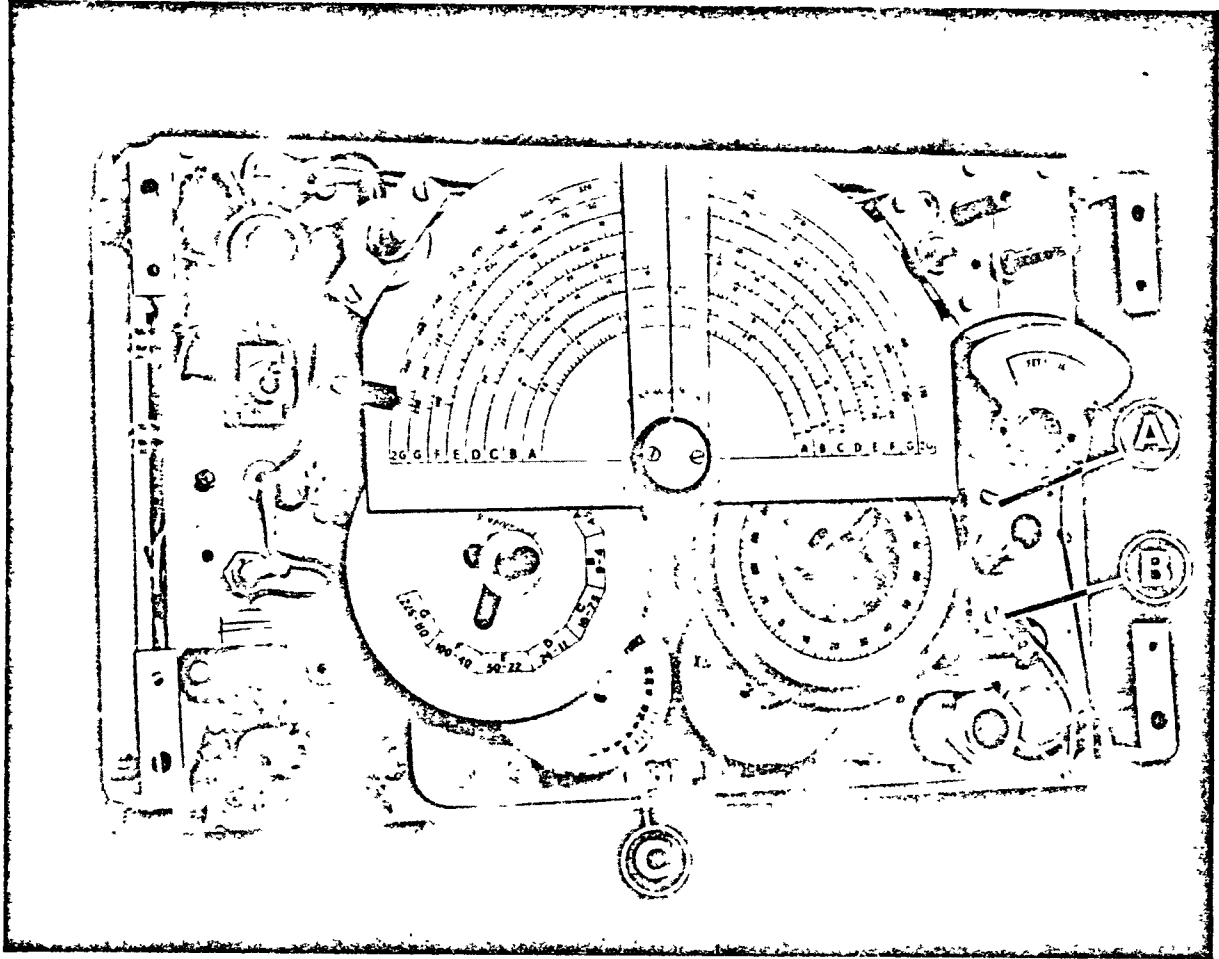
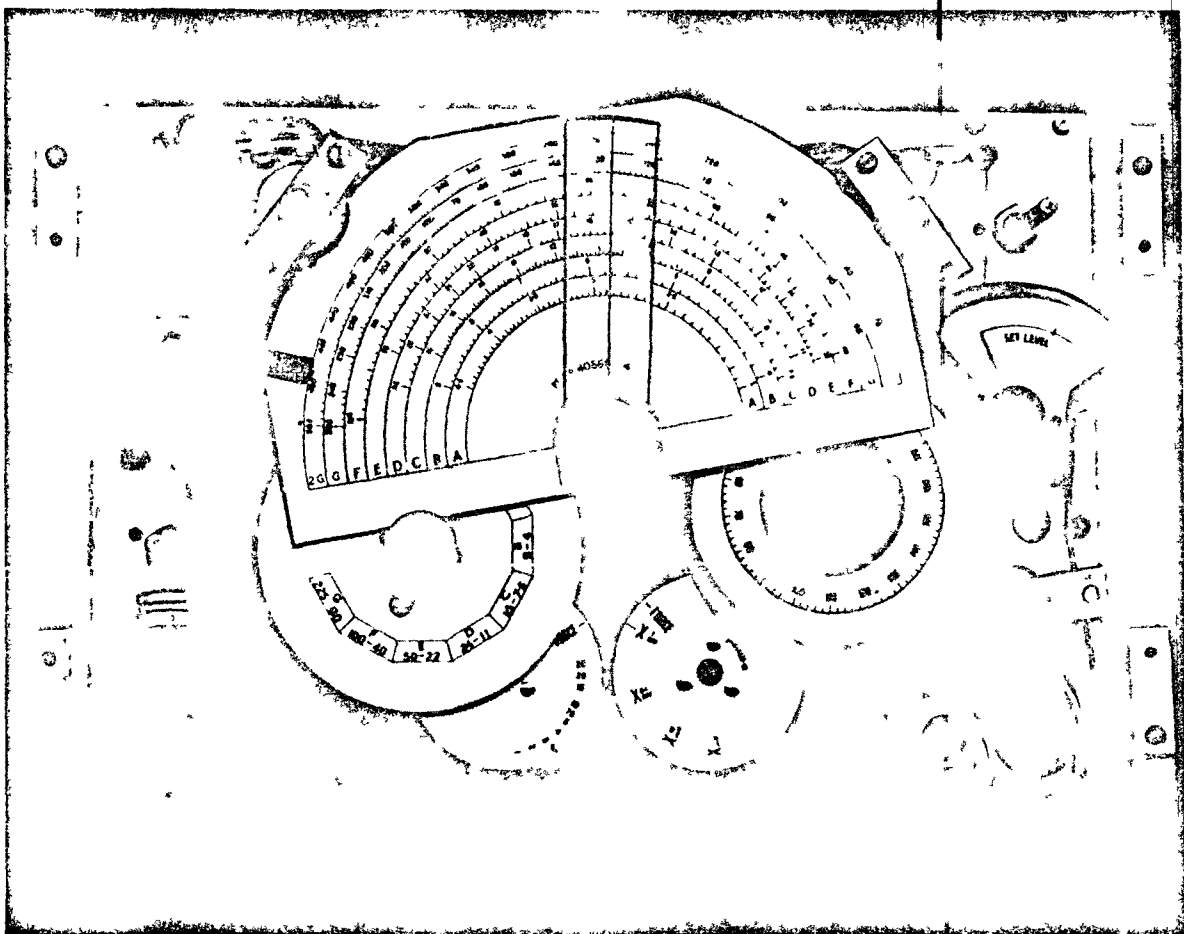
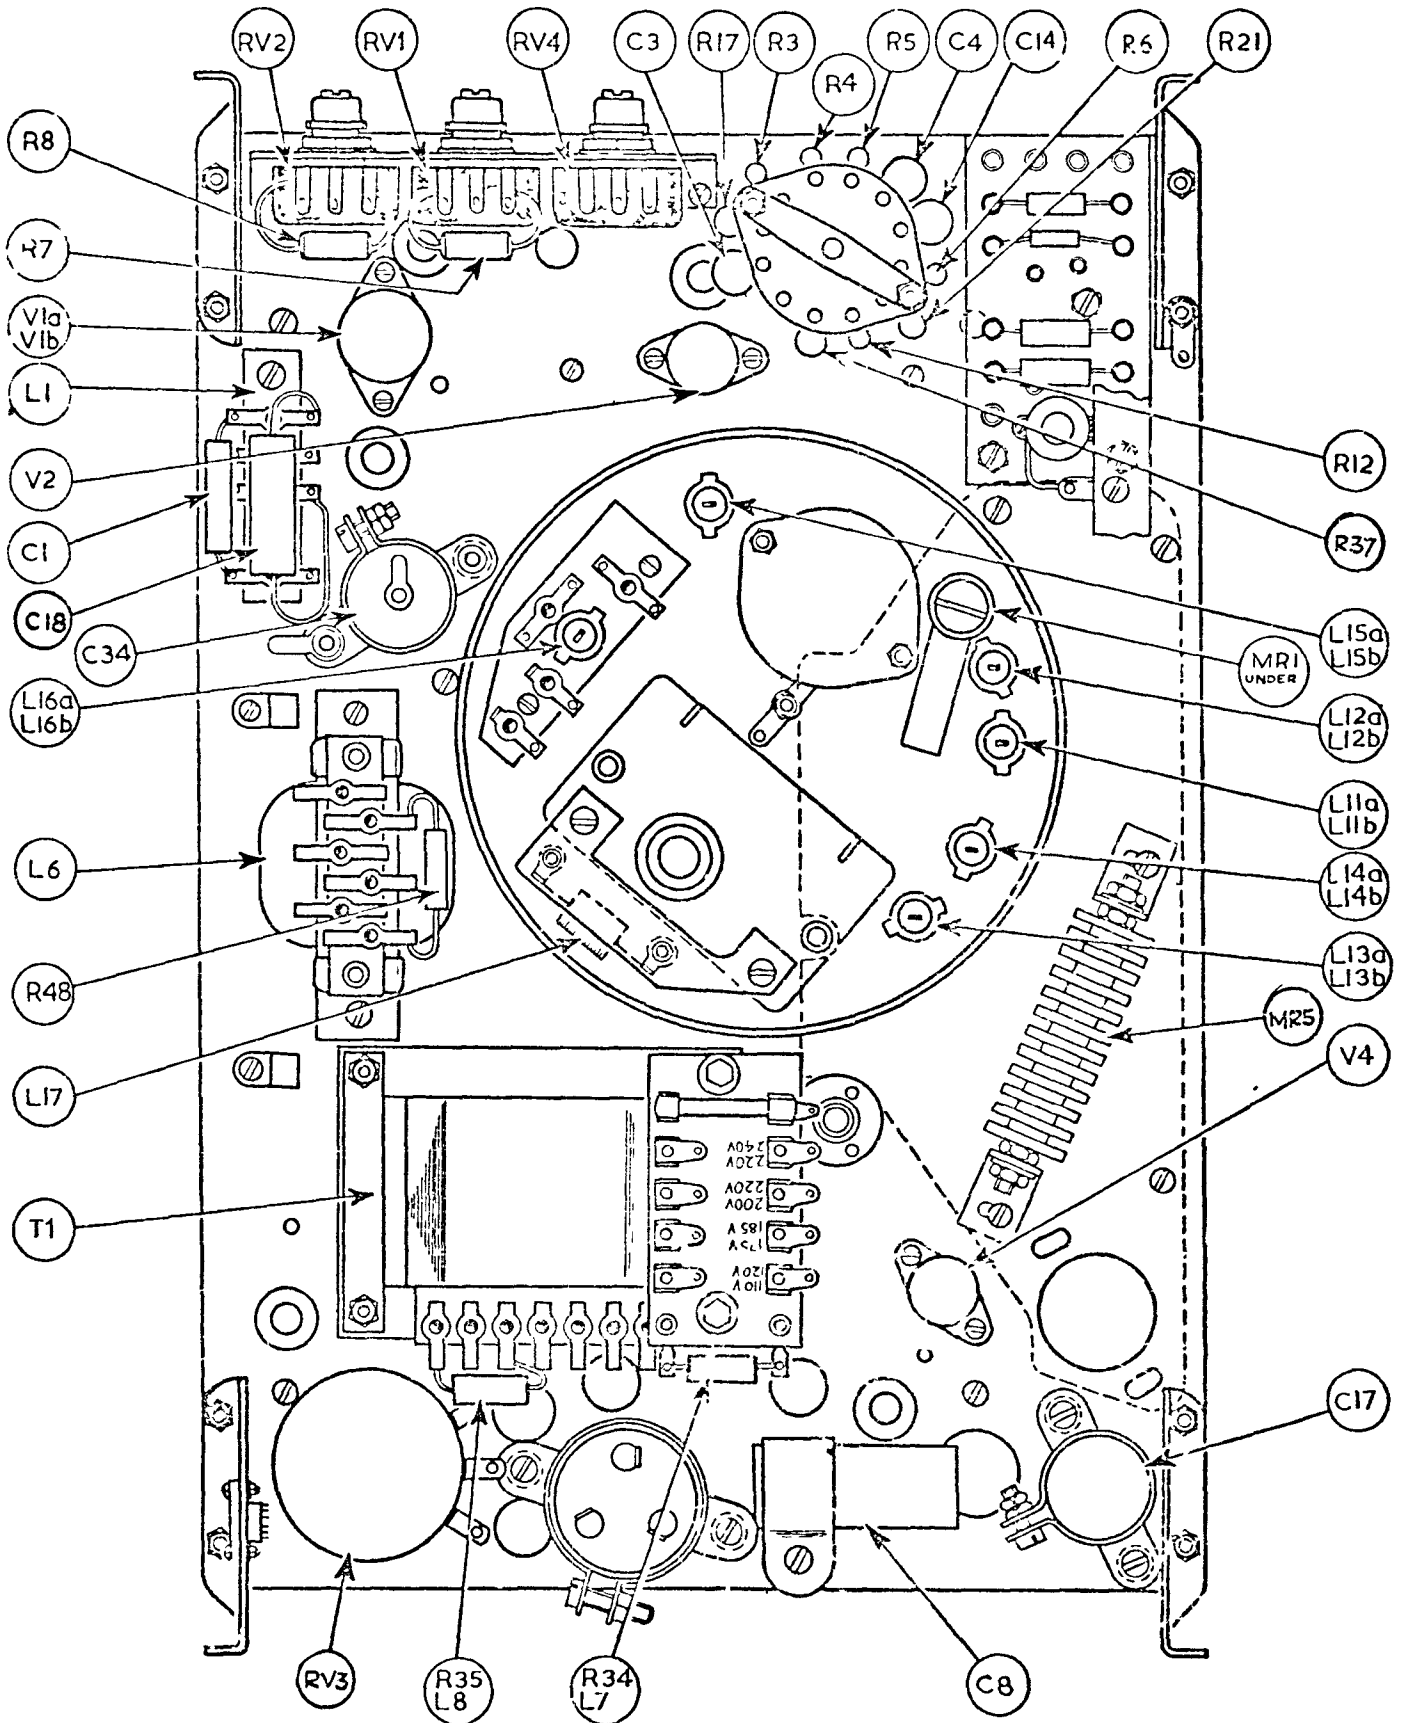

Fig. 2.2.1
Fig. 2.2.2
Fig. 2.2.9
- (1) Mark and unsolder three wires from the output terminals below the control panel, also the modulator bias lead.
- (2) Unscrew the retaining rings from the MAINS input plug and MAINS switch so that they will drop through the panel.
- (3) Remove knobs and carrier from control spindles by removing the screw in the top of each knob, and then extracting the retaining pin from each knob carrier. Unscrew the knurled ring from the ENGAGE FINE CONTROL. Note the washers.
- (4) Remove carrying handles.
- (5) Remove the retaining nut from the MOD. switch so that it can drop through the panel.
- (6) Remove eight fixing screws from the control panel.
- (7) Remove movement fixing nuts from SET LEVEL INDICATOR.
- (8) Lift off control panel. (See Figure 2.2.1).
- (9) Remove bolt in pillar 'A' and loosen the other 'B' holding the drive to the right hand uniformly calibrated dial, and swing assembly away from dial. Remove bulb holder 'C'. (See Figure 2.2.2).
- (10) Set the Cursor to the low frequency-P.H.S. end of scale and turn instrument over. Carefully unscrew circular screening can from r.f. compartment.
- (11) Remove plug covering feed from compartment to the attenuator. Unsolder connections, and remove internal screwed insert. (This plug is shown in Figure 2.2.9 adjacent to L12A and L12B labelled 'MR1 Under').
- (12) Turn instrument back to its original position, and unsolder wire entering attenuator from the tag-board on the left hand side of the attenuator.
- (13) Remove the seven screws holding the attenuator to the main chassis. The heads of the screws are on the Mains transformer side of the plate. Two of the screws hold down the back cover of R.F. output plug.
- (14) Remove the hexagonal pillar that holds screw A (Fig. 2.2.1). Place the right hand uniformly divided dial into the position shown in Figure 2.2.2. Turn the spindle until the hole in the circular plate beneath the calibrated dial lines up with the plug-nut in the attenuator casting. Loosen this plug-nut.
(26) When replacing the complete attenuator into the chassis it has been found convenient to remove the original short wire and to solder nine inches of about 22 s.w.g. tinned copper wire on to the attenuator input. Pull the free end carefully through the housing labelled:- "MRL under" in Fig. 2.2.9 as the attenuator is slipped into place.